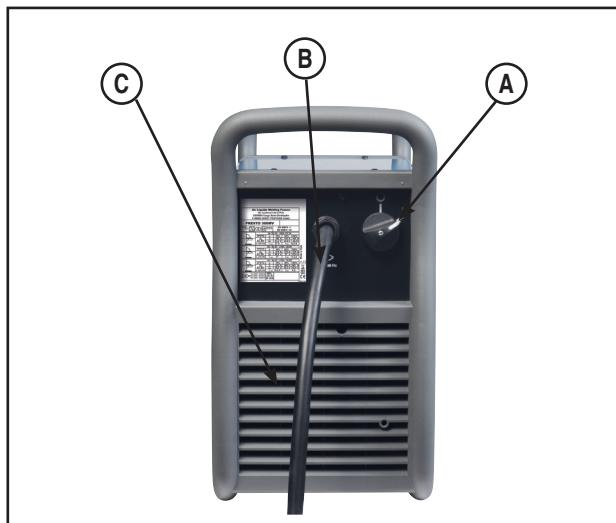

Fig.3
- C. Cooling fan: the unit has a F.A.N. (Fan As Needed) circuitry inside that automatically turns the fan ON or OFF. This feature reduces the amount of dirt which can be drawn inside the machine and reduce power consumption. When the machine is turned ON (Ref.A-Fig.3) the fan will turn ON. The fan will continue to run whenever the machine is welding. If the machine does not weld for more than five minutes, the fan turns OFF.
8. Turn ON the machine (Ref.A-Fig.3) and select the Electrode welding mode (Ref.19-Fig.8).
8. Turn ON the machine (Ref.A-Fig.3). The unit will start up with the same setting of the previous parameters.
IMPORTANT: WHEN THE MACHINE IS POWERED (REF-A-FIG.3) LIGHTS UP THE GREEN POWER ON LED (REF.10-FIG.8) IN CONJUNCTION WITH ONE OF THE INPUT VOLTAGE LEDs (REF.7,8,9-FIG.8) TO INDICATE THE CHARACTERISTIC OF THE MAINS CONNECTED TO THE UNIT.